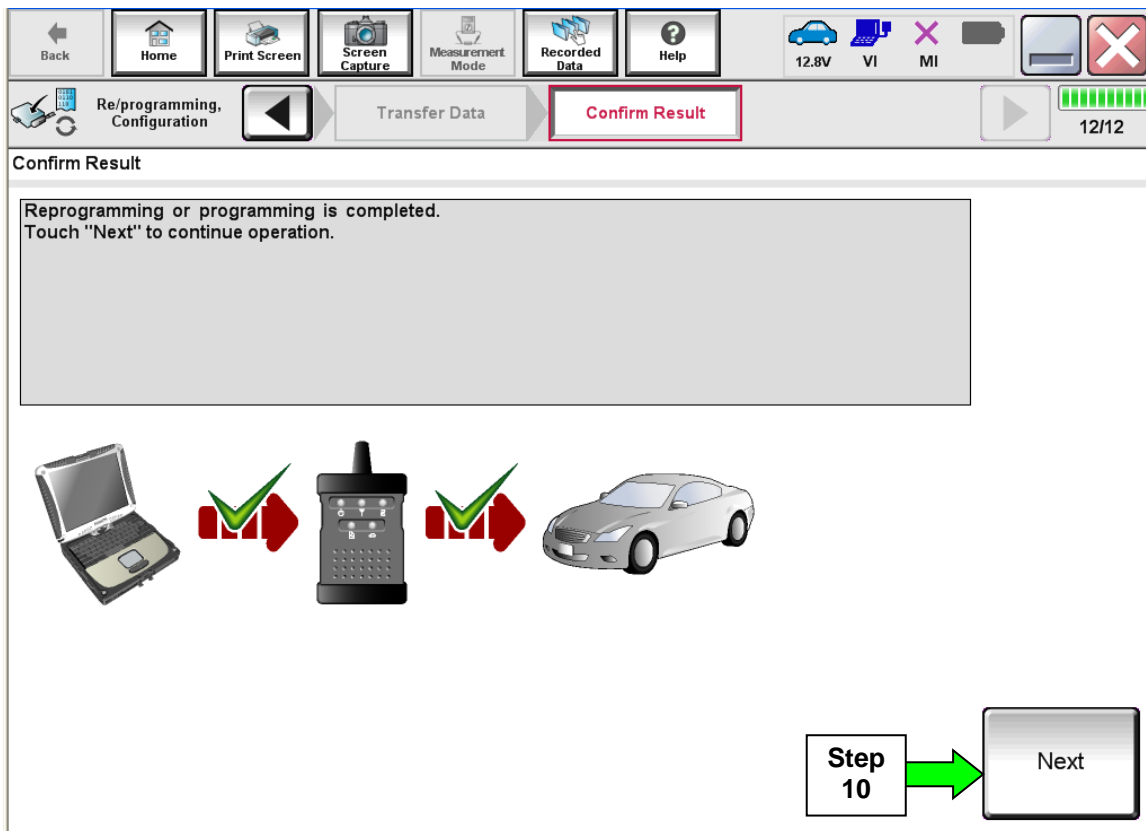

Figure 4A
8. When the screen in Figure 4A displays, reprogramming is complete.
**NOTE:** If the screen in Figure 4A does not display (indicating that reprogramming did not complete), refer to ECM recovery on the next page.